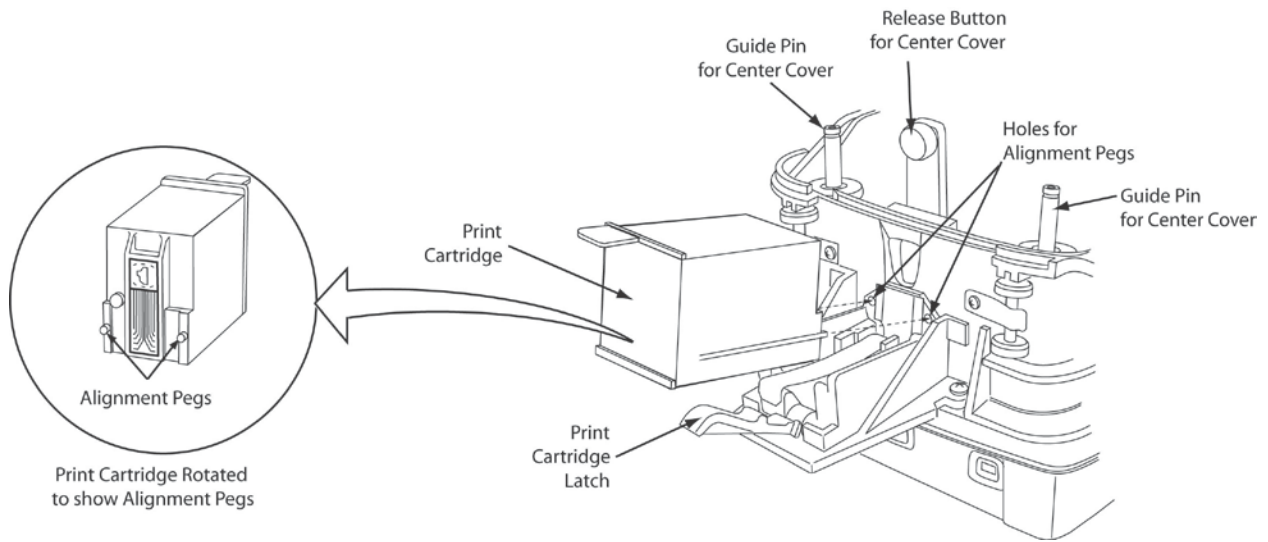

Figure 2-4. Printer/Cartridge Installation and Removal
To install the **Printer/Cartridge**, refer to Figure 2-4 and perform the following:
2. Slide the guide pegs into the guide holes as indicated in Figure 2-4.